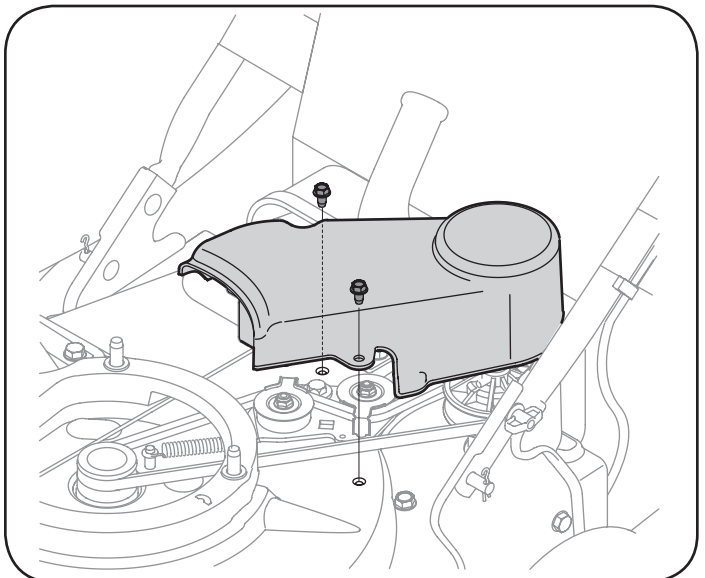

Figure 19
4. Remove the three self tapping screws securing the belt cover, and remove belt cover. See Figure 19.